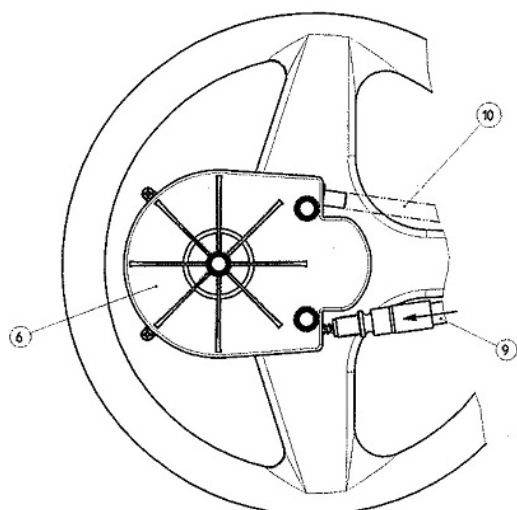

FIG 4
- In order to mesh the cable with gear wheel (see Fig. 4).